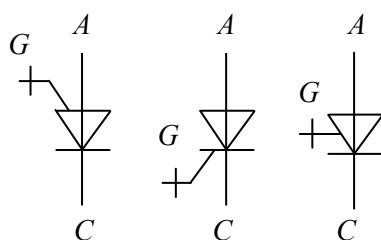

Fig. 1.54
*thyristor* switch. The GTO can be turned on by the positive current gate pulse, and turned off by the negative current gate pulse. The cross terminals in Fig. 1.54 show that the symbol belongs to the GTO thyristors.